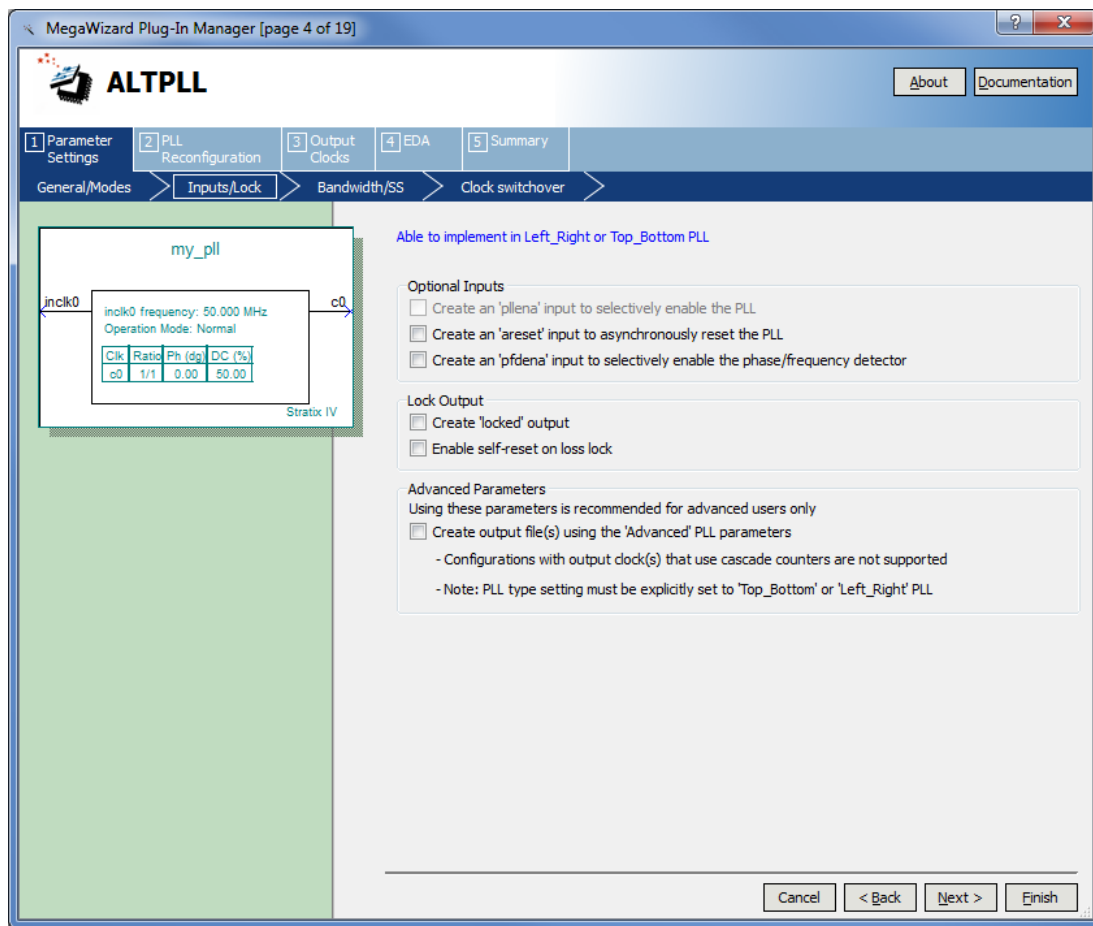

Figure 15. Settings for Input/Lock section.
5. Uncheck the checkboxes of **Create an 'areset' input to asynchronously reset the PLL** and **Create 'locked' output** as shown in Figure 15.